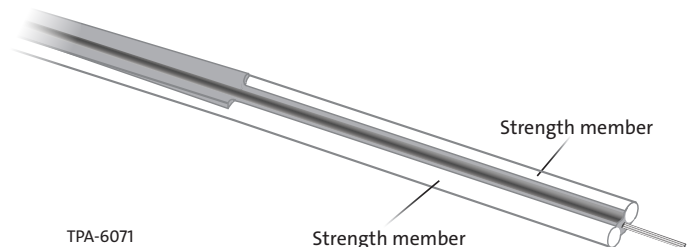

Figure 5
Step 4: Rotate the cable over and repeat this process on the other flat side of the cable. The strength elements are now exposed from all sides at the end of the cable (Figure 5).